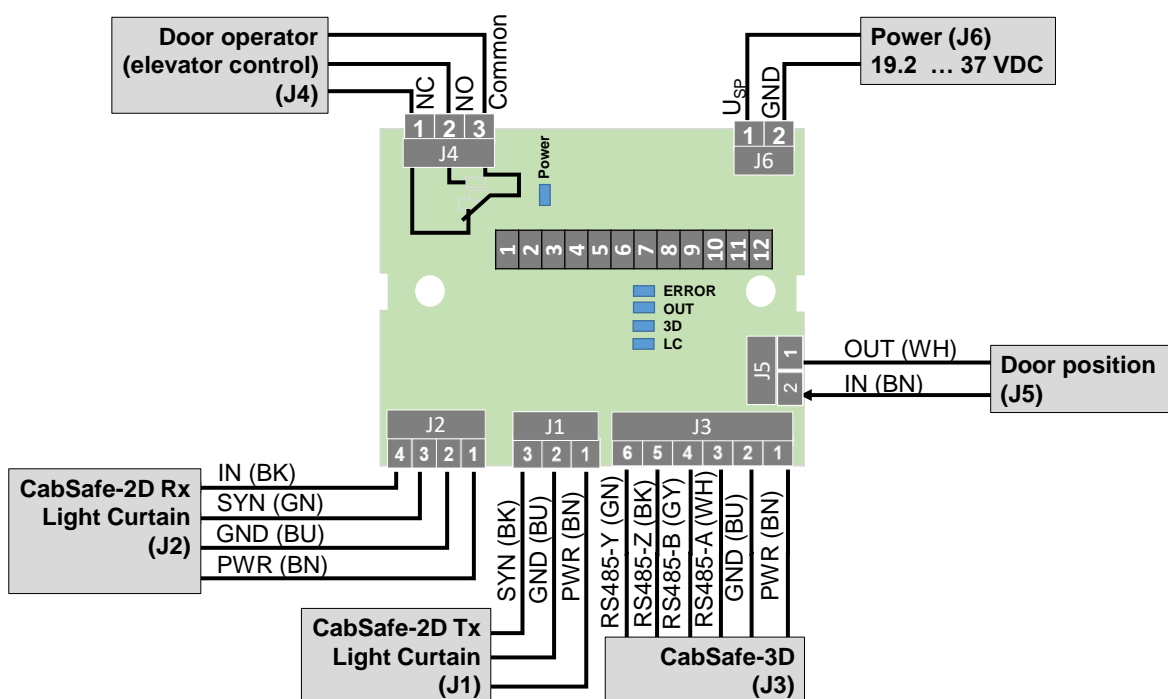
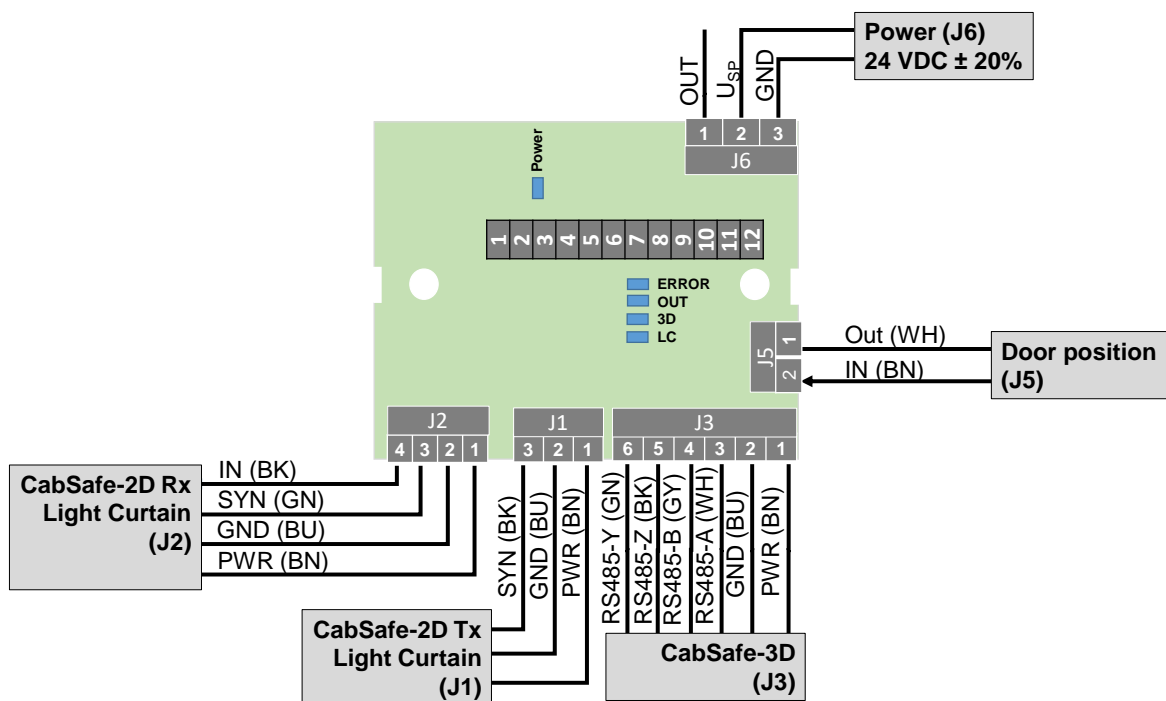
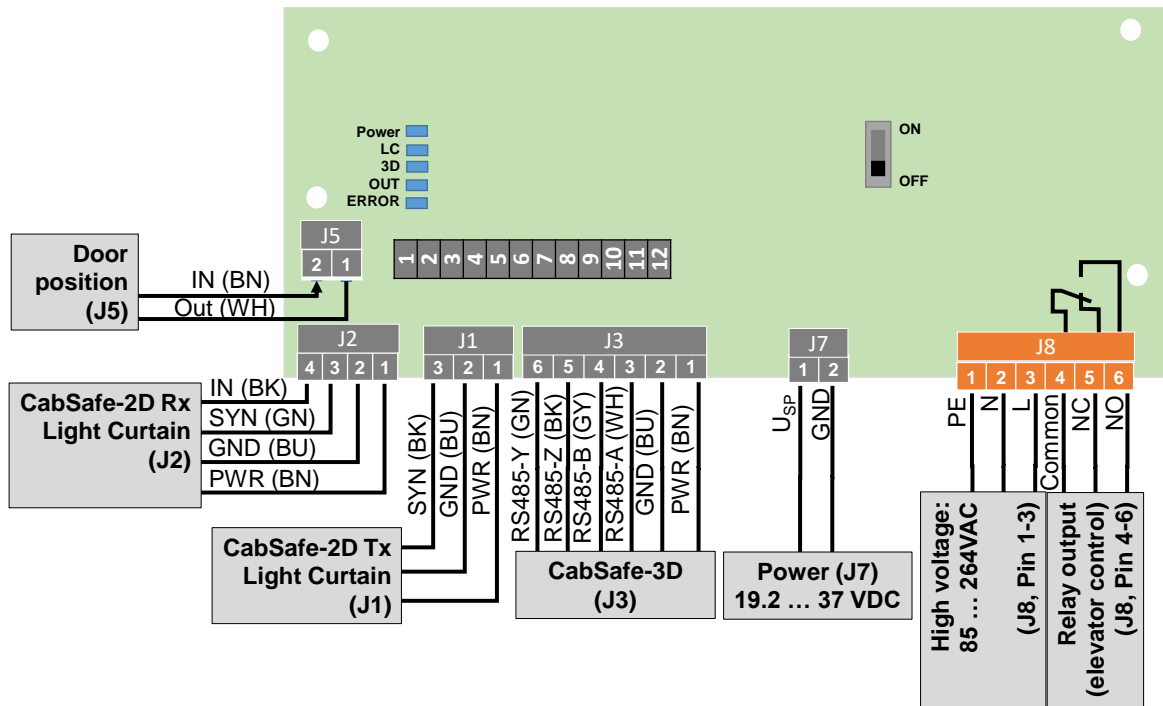

Figure 5: Electrical connections CabSafe Controller 100 with relay output
Figure 6: Electrical connections CabSafe Controller 100 with push pull output
Figure 7: Electrical connections CabSafe Controller 200 with relay output
The configuration of the CabSafe-System is managed by settings of twelve (12) DIP switches. The location of the switches is shown in Figure 5, Figure 6 and Figure 7. The switches are described further in the tables that follow.